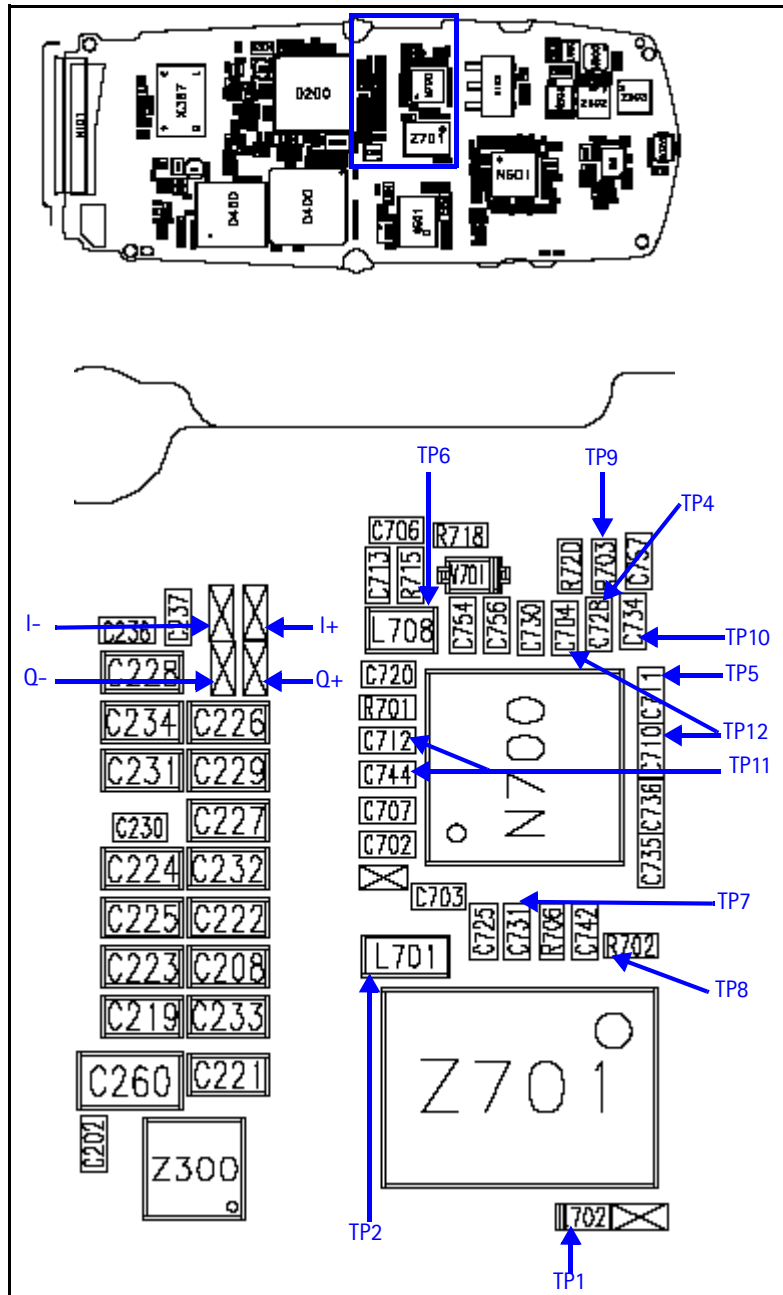

Figure 13: PWB, bottom side (top). A zoomed view of the testing points on the Rx IF section (bottom).
* The R, L, T, and B values at the end of the part numbers indicate the Right, Left, Top, and Bottom side of the part respectively in Figure 13.
Figure 13 shows each testing point from the Rx IF Troubleshooting table for the Rx IF section.